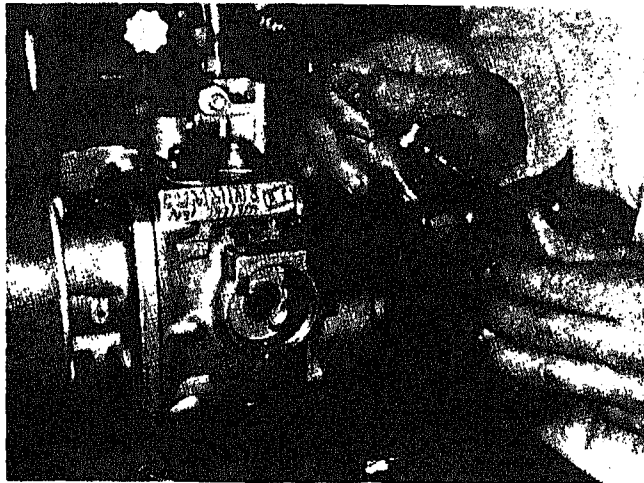

Fig. 511-13. Shim throttle restriction plunger
4. Make sure throttle shaft, with restriction plunger, has plunger shimmed so main throttle port is completely open. This is not necessary if the calibration is merely being checked as a trouble-shooting step. Fig. 511-13.